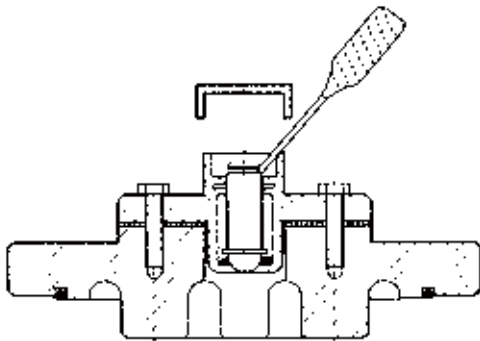

Figure 58 Pry up the valve stem
- 2) Pry up the valve stem with a screwdriver to deflate the tap-changer head (Figure 58)